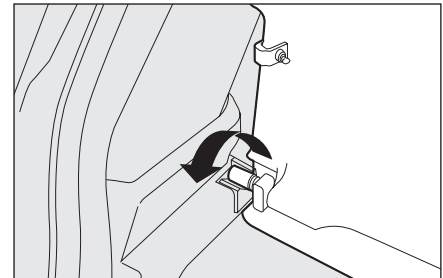

fig. 109
- ☐ Front part: release and turn the rear window shelf in its housing and release the two pins from the sides fig. 109.